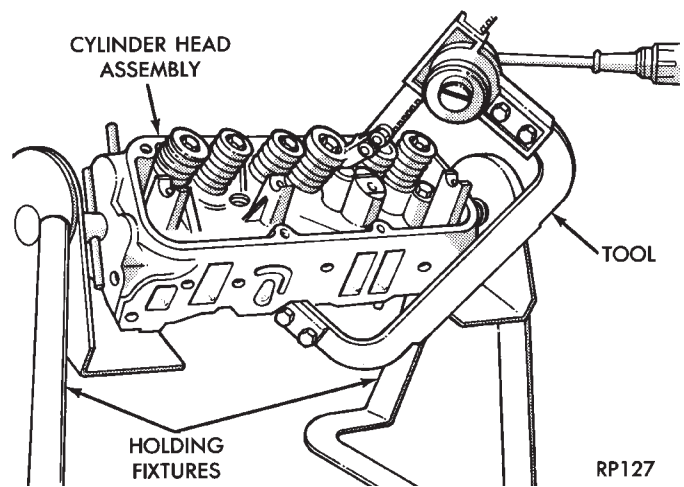

Fig. 16 Compress Valve Springs with Special Tool C-3422B with adapter 6412
(1) With cylinder head removed, compress valve springs using Valve Spring Compressor Tool C-3422-B with adapter 6412 as shown in (Fig. 16).
(2) Remove valve retaining locks, valve spring retainers, valve stem cup seals and valve springs.
(3) Before removing valves, **remove any burrs from valve stem lock grooves to prevent damage to the valve guides.** Identify valves to insure installation in original location.